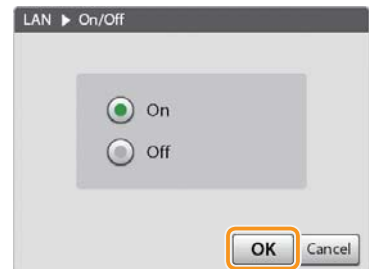

Figure 3-118
3. Tap [OK] to complete the setting. (Figure 3-118)